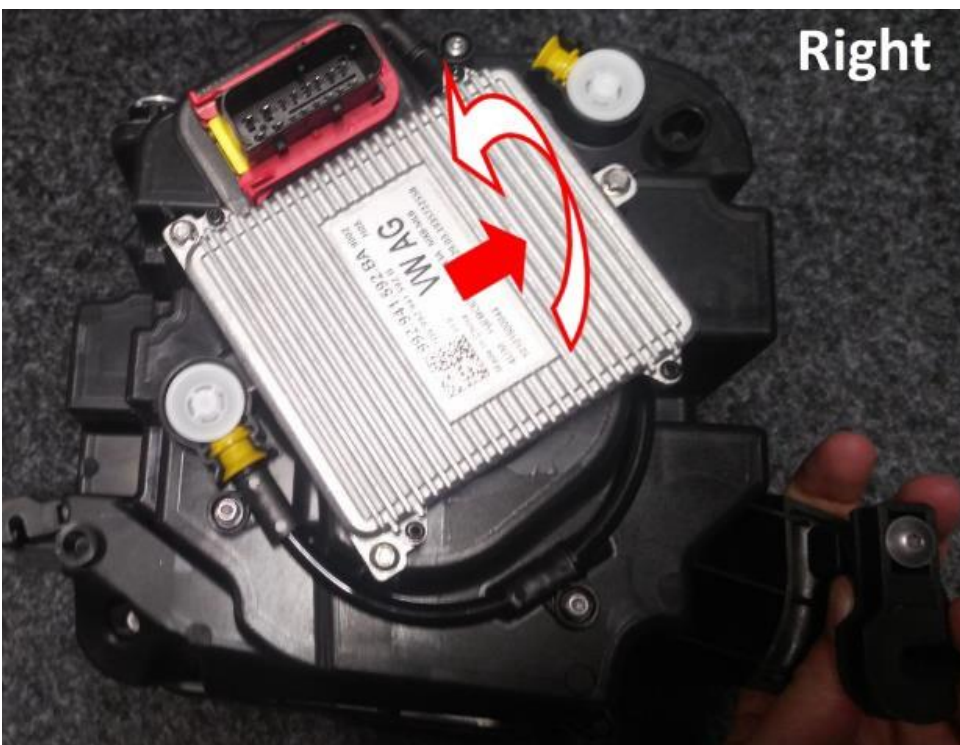

Figure 11
9) When the module is refitted the right hand module harness loop should be routed as shown (Figure 11)